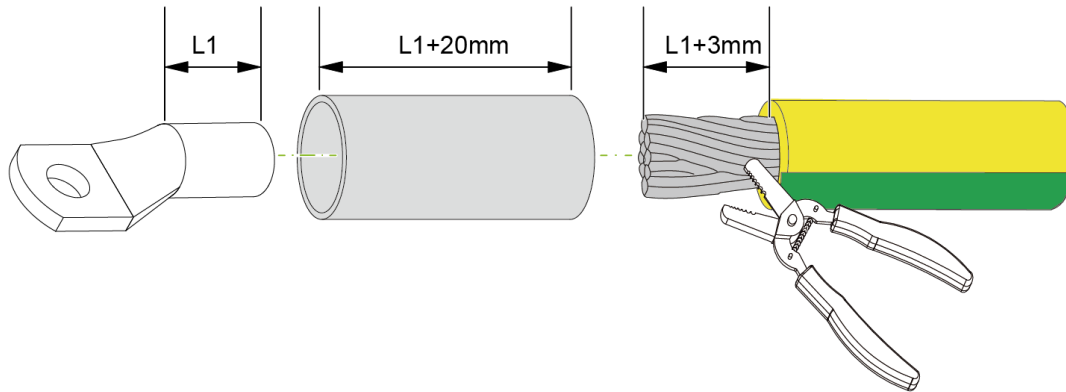
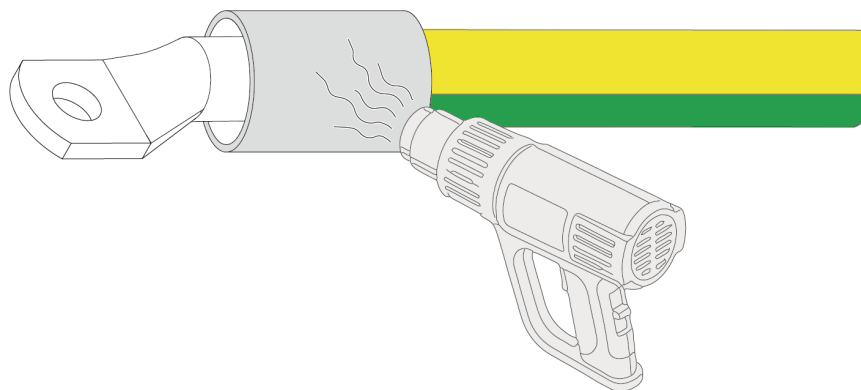

Figure 5-3 Grounding terminal
Figure 5-5 Seal the heat-shrink tubing
2. Crimp terminals on cables in the same way of grounding cable, you can refer to Figure 5-3 Grounding terminal ~ Figure 5-5 Seal the heat-shrink tubing.
3. Loosen and take off the hex socket combination bolt (1).